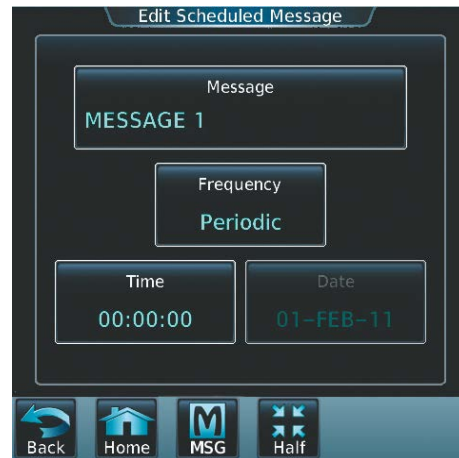

Figure 8-120 Touch Message Button
- 3) Touch the **Message** Button as shown in Figure 8-120.